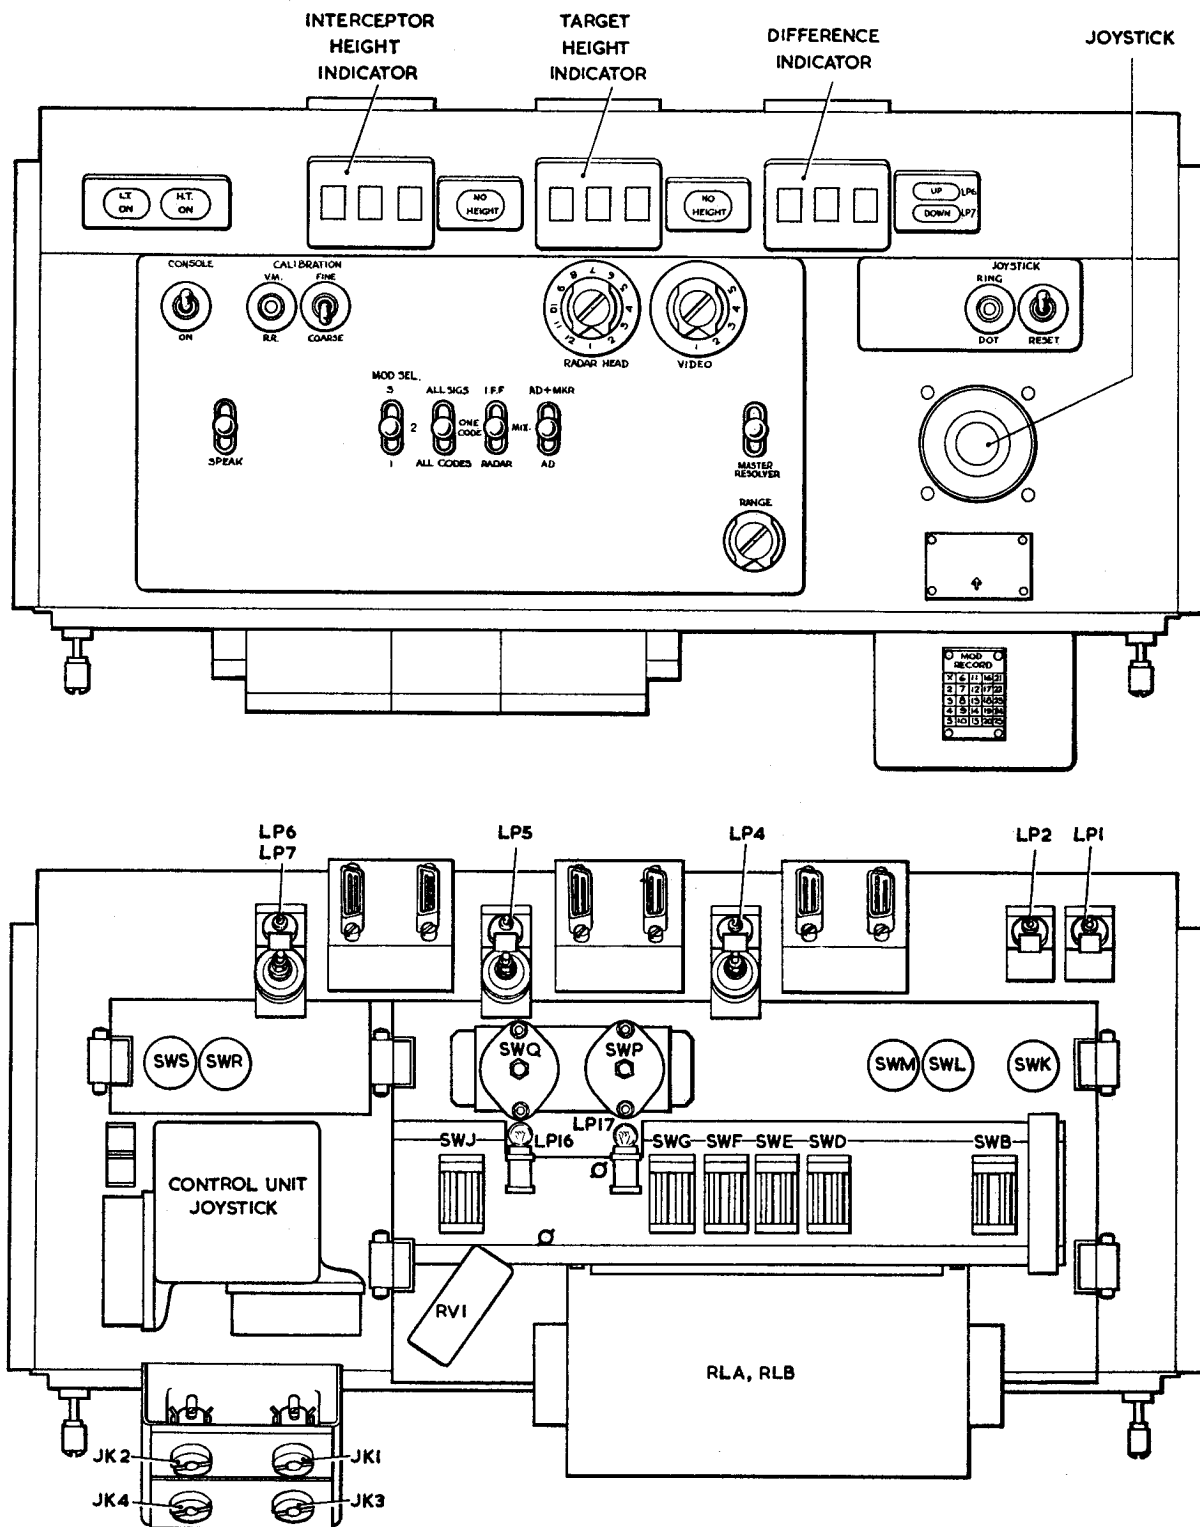

Fig. 9. Panel (control desk) Type 16284—front and rear views
47. Control unit (joystick) Type 12270. The control unit (joystick) Type 12270 is shown in fig. 9. This unit consists of two precision potentiometers which are driven, via gears, by movement of the joystick. The joystick pivots by a central ball joint and may be moved in any direction. When the joystick is moved to the left or right, the movement is transmitted, through a quadrant gear, to a pinion fitted to the shaft of one of the potentiometers. When the joystick is moved up or down, a similar arrangement alters the setting of the other potentiometer. If the joystick is moved at, for example, 45 degrees, a resultant movement of both potentiometer wipers will occur.